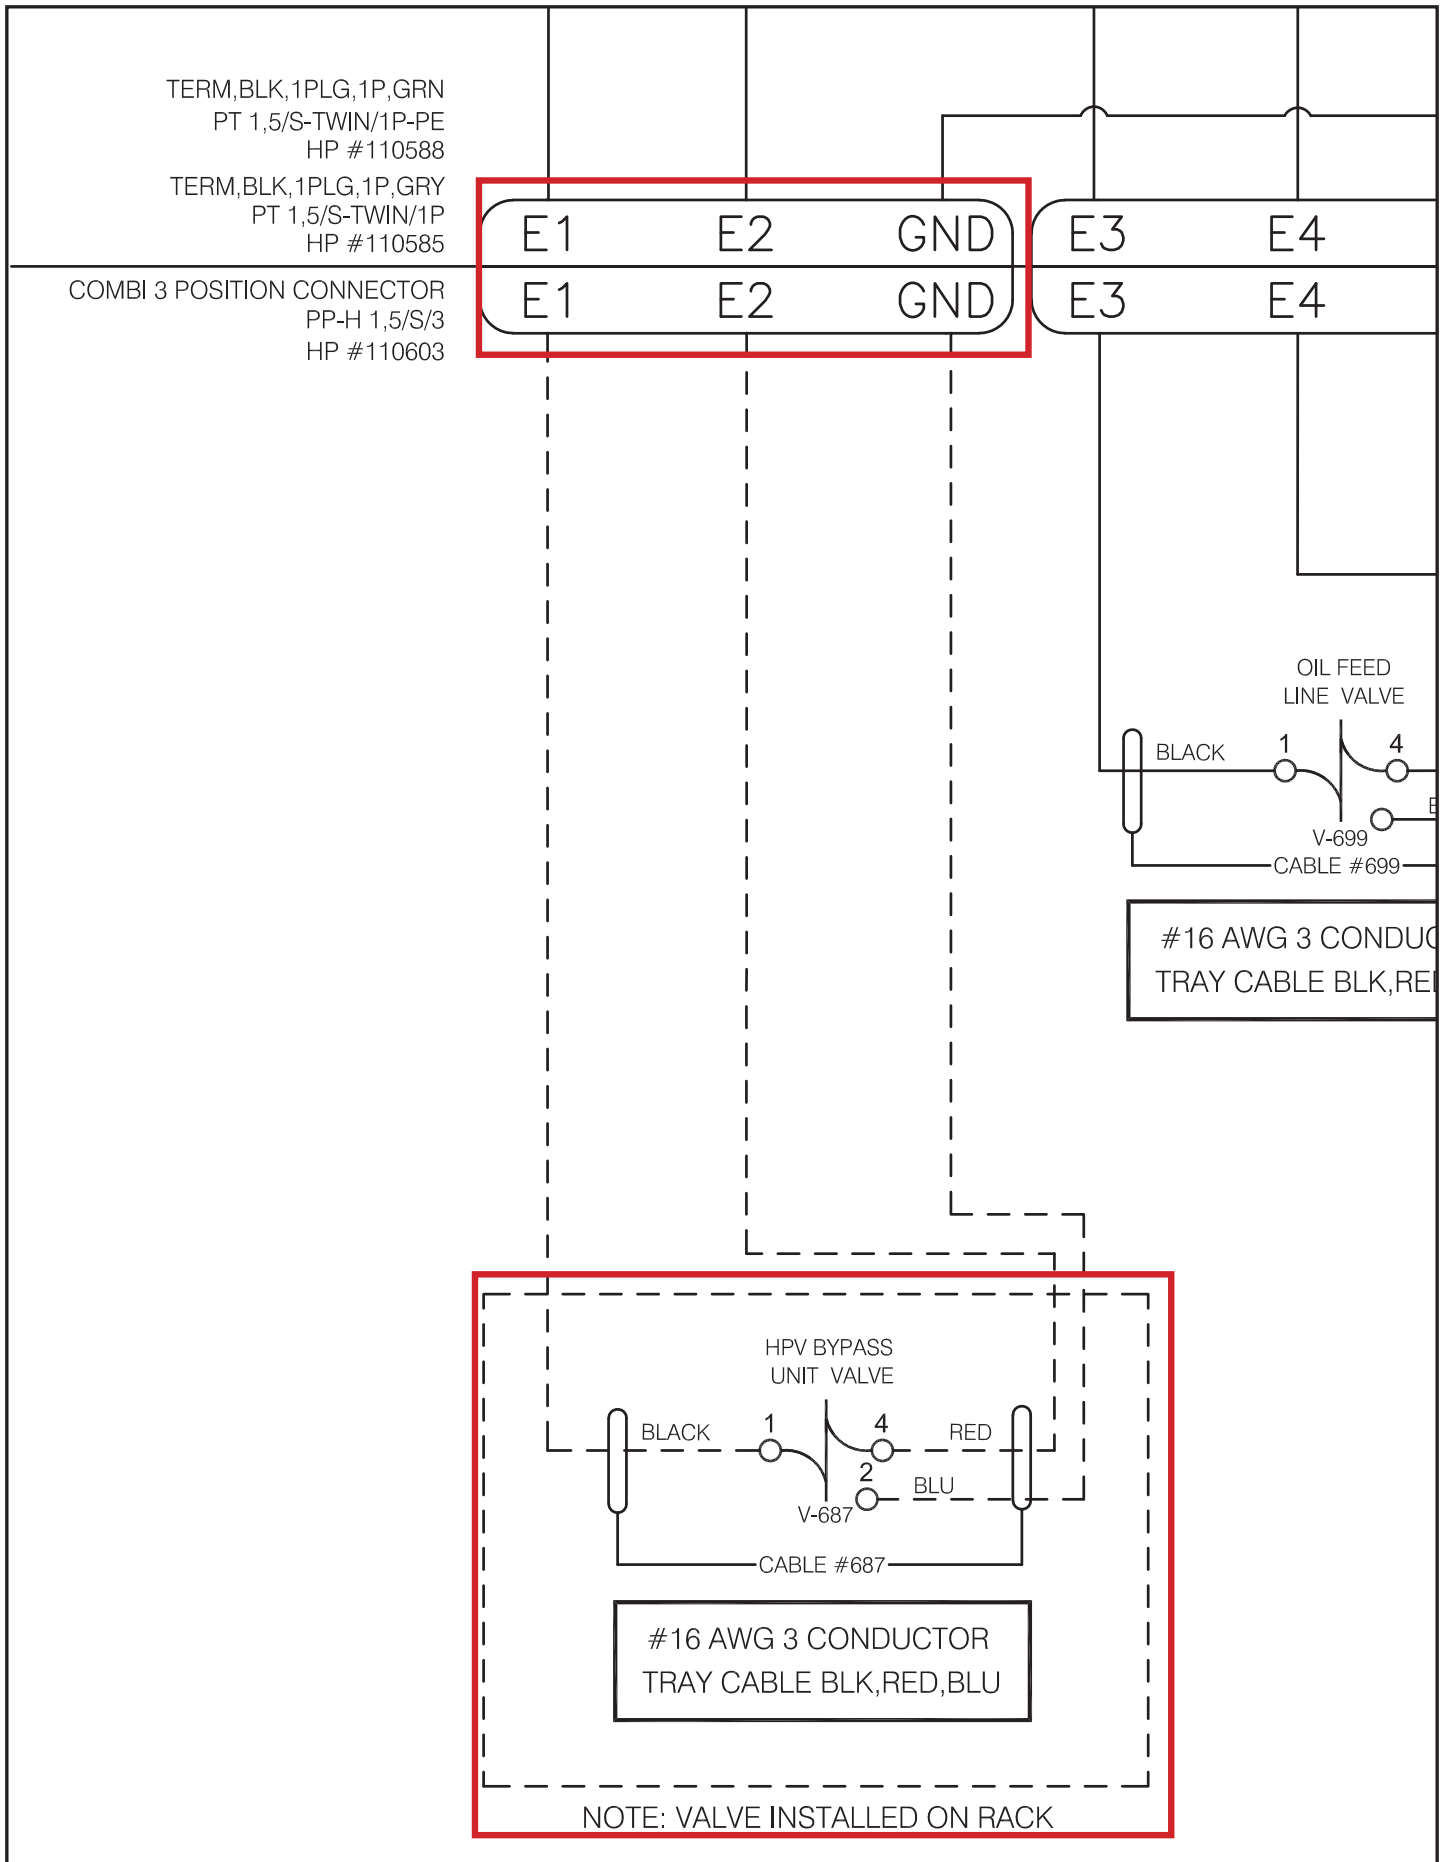

Figure D2 – ChargeSecure wiring diagram excerpt
Step 5: Bypass Solenoid (V-687) to be wired to ChargeSecure control panel per wiring diagram indicated in **Figure D2 (Page 11)**.